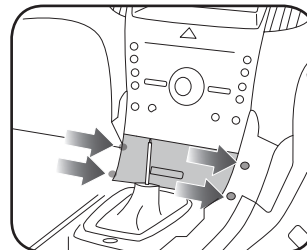

Fig. 1.5
4. Remove the four 7mm screws securing the storage pocket. Disconnect the wiring harness and USB cables. (Fig. 1.5)